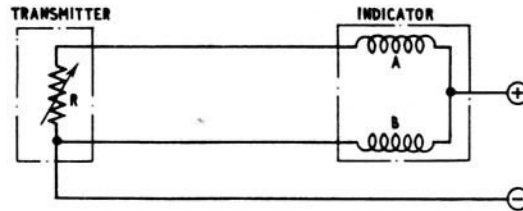

Fig.1 System Circuit
2. The indicator and thermometer bulb (transmitter) are connected, as shown in fig. 1. The transmitter consists of a variable resistor R, the value of which varies with temperature. The indicator consists of a moving coil movement having two windings A and B; the value of the current flowing through each winding depends upon the value of the resistance of the transmitter. It is the ratio of the currents in A and B which is measured by the indicator.